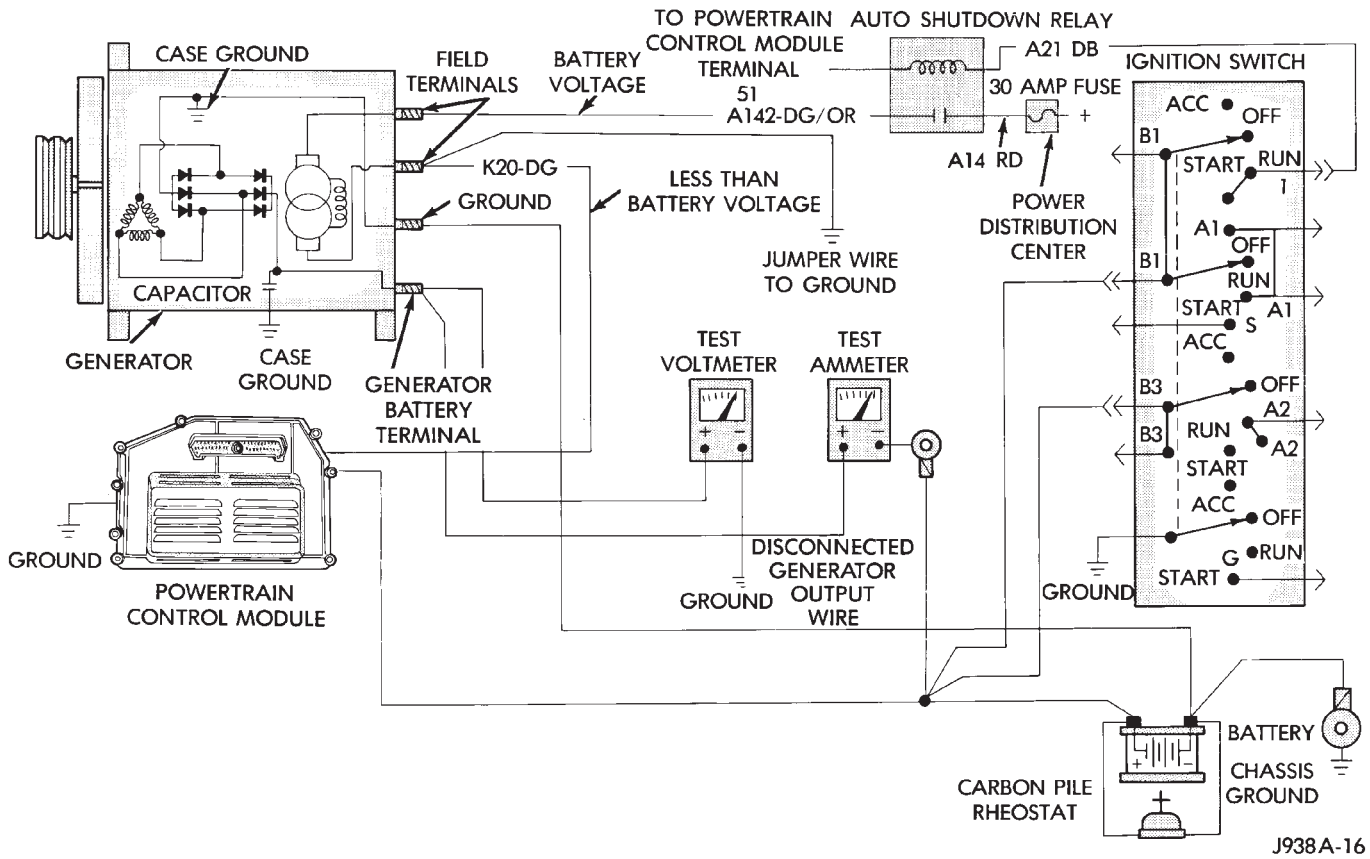

Fig. 3 Generator Current Output Test (Typical)
(1) Before starting test make sure vehicle has a fully-charged battery. See Battery in this group for more information.
(2) Disconnect negative cable from battery.
(3) Disconnect generator output wire at the generator battery output terminal.
(4) Connect a 0-150 ampere scale DC ammeter (Fig. 3). Install in series between generator battery output terminal and disconnected generator output wire. Connect positive lead to generator battery output terminal and negative lead to disconnected generator output wire.
(5) Connect positive lead of a test voltmeter (range 0-18 volts minimum) to generator battery output terminal.
(6) Connect negative lead of test voltmeter to a good ground.
(7) Connect an engine tachometer, then connect battery negative cable to battery.
(8) Connect a variable carbon pile rheostat between battery terminals. Be sure carbon pile is in OPEN or OFF position before connecting leads. See Load Test in this group for instructions.
(9) Connect one end of a jumper wire to ground and with other end probe green K20 field wire at back of generator (Fig. 3). This will generate a DTC.
(2) After current output test is completed, reduce engine speed, turn OFF carbon pile and turn OFF ignition switch.
(3) Disconnect negative cable from battery.
(4) Remove test ammeter, voltmeter, tachometer and carbon pile.
(5) Remove jumper wire (Fig. 3).
(6) Connect generator output wire to generator battery output terminal. Tighten nut to 8.5 ± 1.5 N·m (75 ± 15 in. lbs.).
(7) Connect negative cable to battery.
(8) Use DRB scan tool to erase DTC.